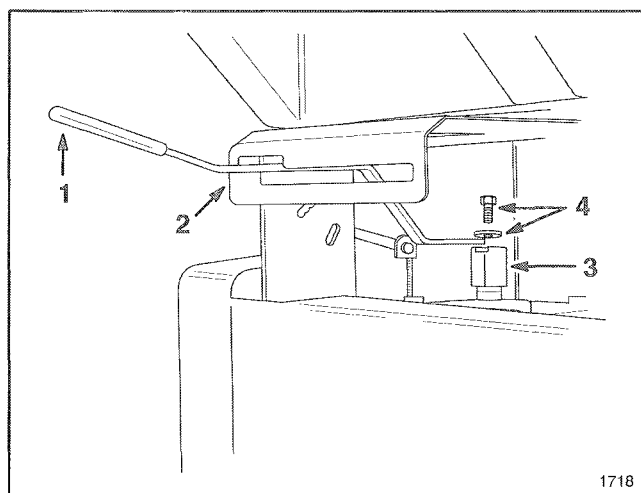

Figure 2
2. Insert shift lever thru slot in control panel and align mounting hole in lever with mounting block on transmission. Secure lever to transmission with 1/4–28 x 2" lg. capscrew and thick, black washer. Torque capscrew to 100–125 in – lb (Fig. 2).